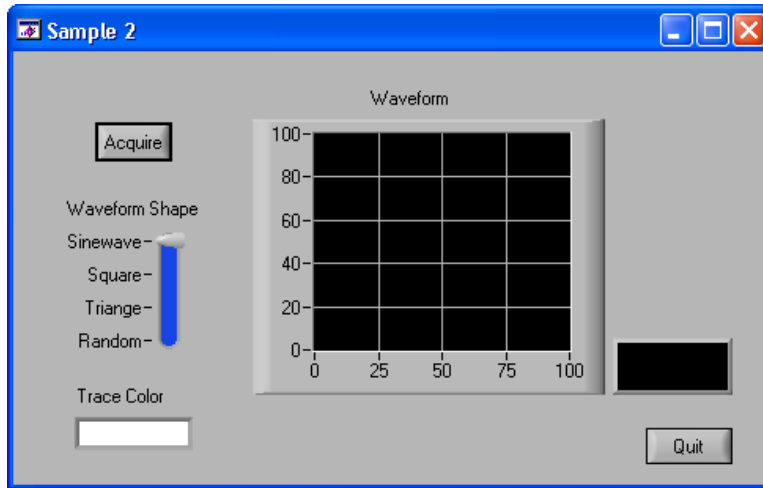

Figure 2-4. sample2.uir Panel when Running
2. Run the project by selecting **Run»Debug sample2_dbg.exe** or by pressing <Shift-F5>. LabWindows/CVI launches the GUI shown in Figure 2-4 after the program compiles and runs.